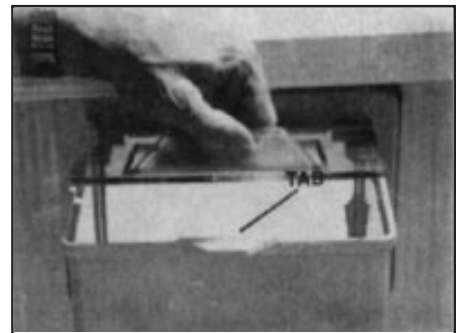

Fig. 8
2. Remove skimmer cover. (Refer to Fig. 8).